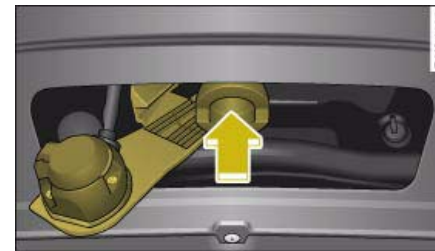

Fig. 211 Removable towing bracket: Inserting the ball joint
- With the spring mechanism in the "ready" position, insert the ball joint into the mounting fixture and push it upwards ⇒ page 213, fig. 211 in the direction indicated (arrow) ⇒ ⚠. The spring mechanism should then engage automatically with an audible click.